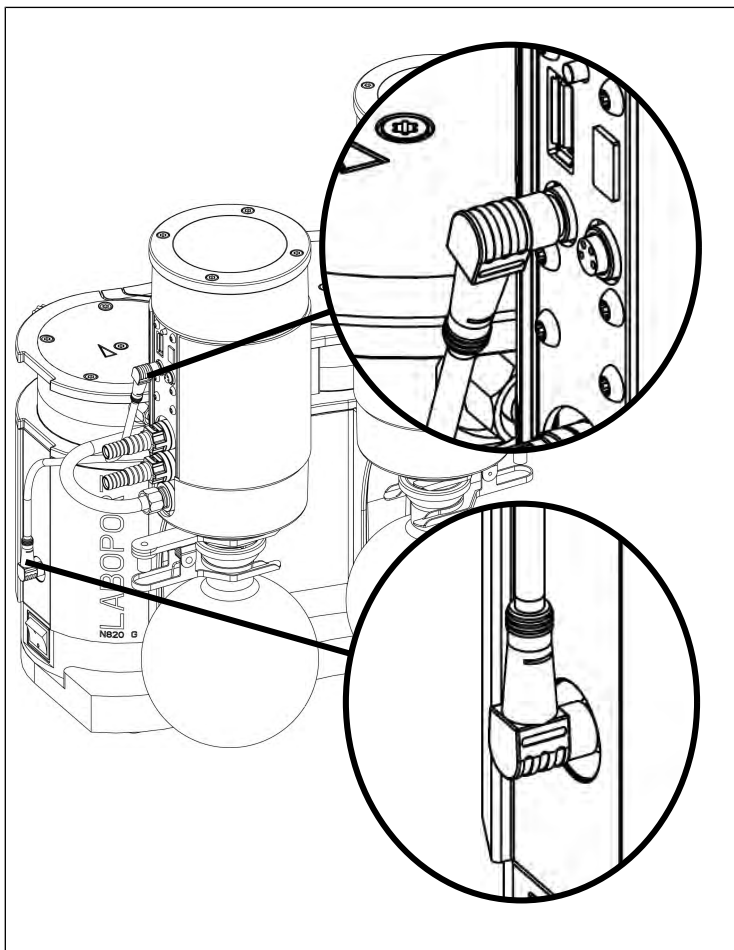

Fig. 7: Connecting the signal cable
1. Connect the signal cable to the pump (see Fig. 3/7) and the separator (Fig. 23/3) (see Fig. 7).
**i** Ensure that the signal cable is correctly aligned with the separator (30° angle; see Fig. 7).